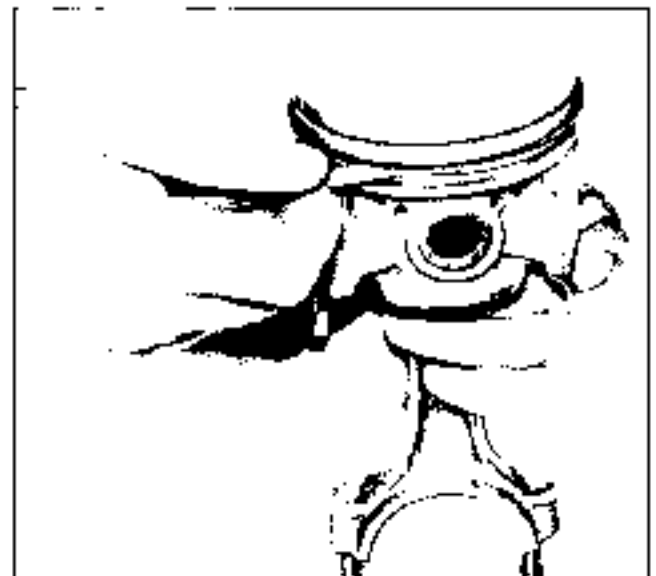

Fig. 6-63 Checking Ring Side Clearance
5. Measure side clearance of rings in ring groove (Fig. 6-63) as each ring is unrolled. Clearance with new pistons and rings should be .0015-.0050.